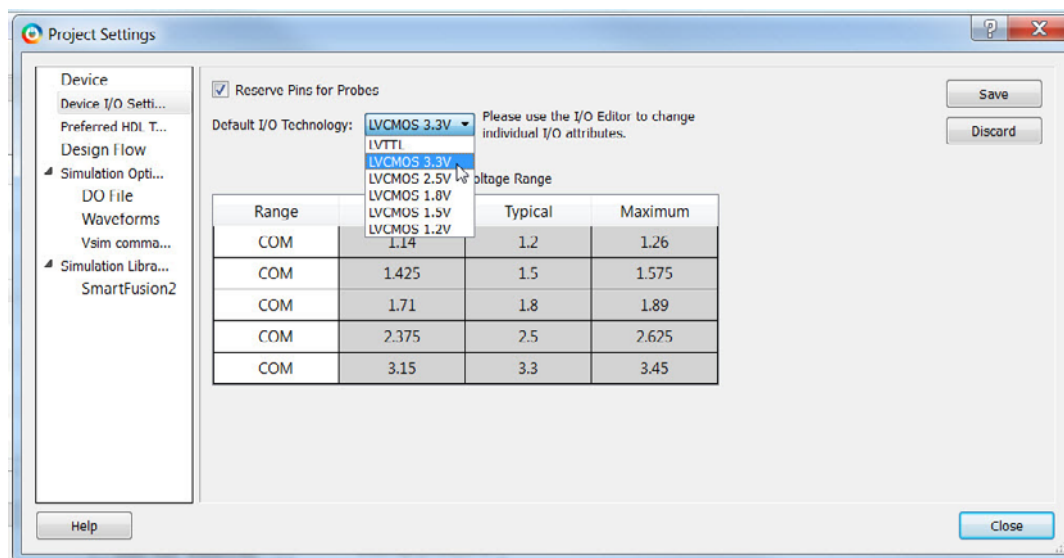

Figure 2-13 • Device I/O Settings
2. From the Default I/O Technology drop-down list, choose **LVC MOS 3.3V** (Figure 2-13).